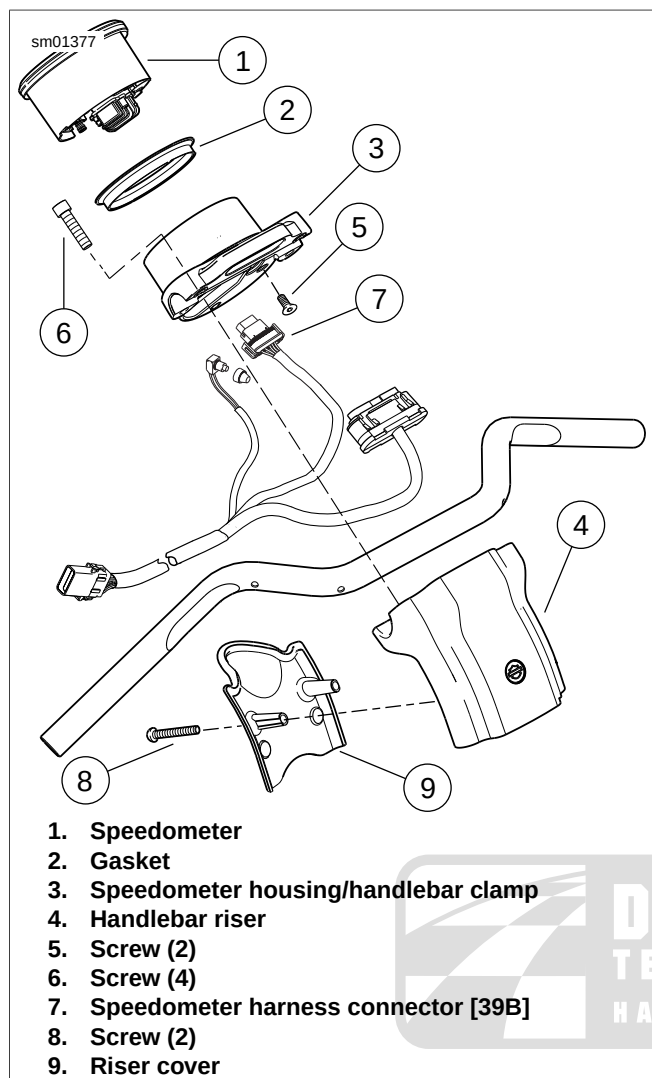

Figure 6-22. Speedometer Components (XL 883C/XL 1200C)
3. See Figure 6-22. Remove two screws (8) and riser cover (9) from back of handlebar riser (4). See 2.32 HANDLEBARS.
2. See Figure 6-22. If removed, install gasket (2) in speedometer housing/handlebar clamp (3).